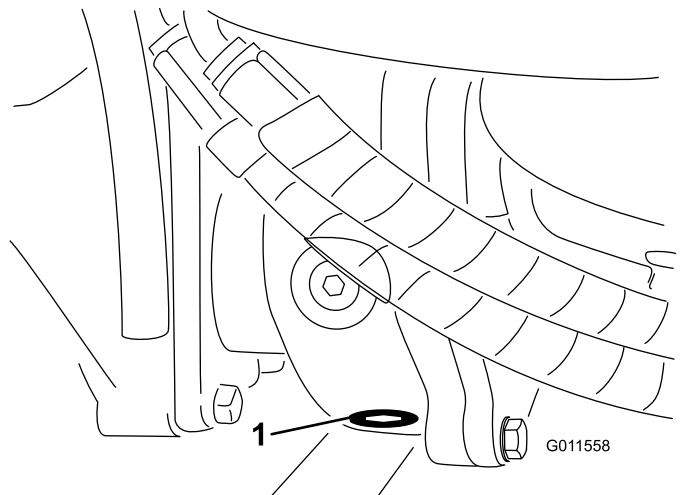

**Figure 107**
2. Clean the area around the 3 drain plugs; 1 on each end and 1 in the center (Figure 107).